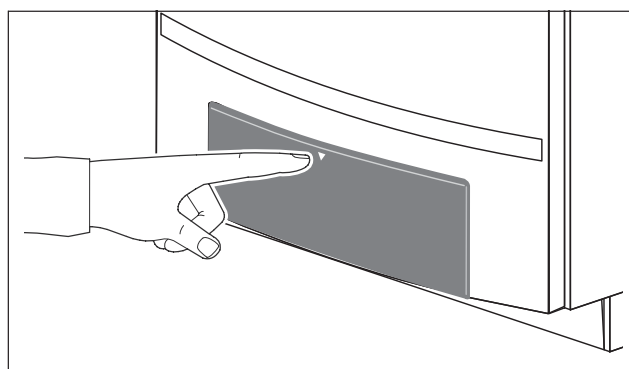

fig. 107 Closing the control panel
- Press on the control panel to close it (fig. 107, page 73).
- Push on the control panel to close it (fig. 107).